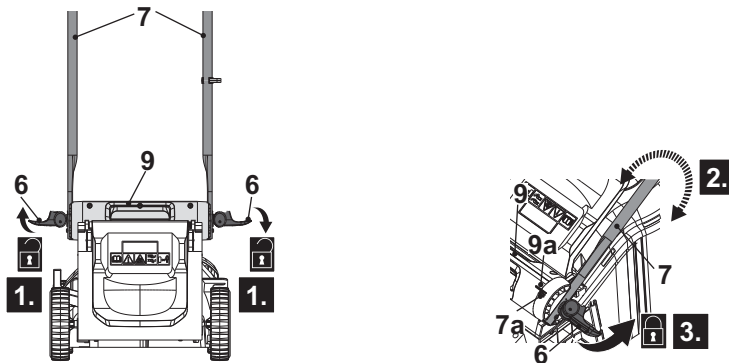

Fig. 10
1. Unfold and loosen the clamp levers (6) anti-clockwise on both sides of the lower handle bars (7), but do not remove them (Fig.10, step 1).
2. Hold and swing the handle assembly gently to the desired position by aligning the indication line (7a) with the indicator (9a) of transport handle (9) (Fig. 10, step 2). Ensure the handle assembly is assembled on the same height level on both side.
3. Secure the handle assembly by folding up the clamp lever (6) towards the transport handle (9). If clamp lever (6) cannot be folded, loosen it and fold again. If it is too loose, tighten it by turning the clamp lever (6) clockwise (Fig. 10, step 3).